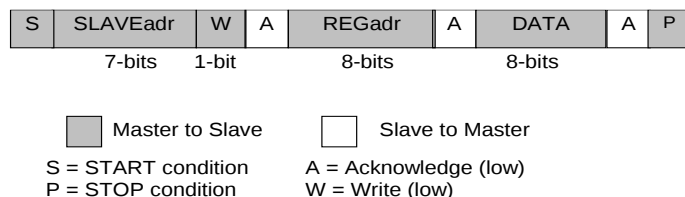
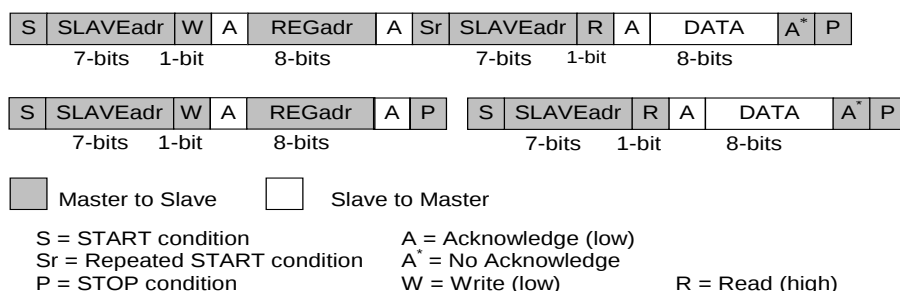

Figure 17. I²C Byte Write (SDA Line)
Figure 18. I²C Byte Read (SDA Line) Examples
The I²C bus is monitored for a valid slave address whenever the interface is enabled. It responds immediately when it receives its own slave address. The acknowledge is done by pulling the SDA line low during the following clock cycle (white blocks marked with A in Figure 17 and Figure 18).
The protocol for a register write from master to slave consists of a START condition, a slave address with read/write bit, and the eight-bit register address followed by eight bits of data, terminated by a STOP condition. DA9131-A responds to all bytes with acknowledge (A), see Figure 17.
When the host reads data from a register it first has to write to R16DS0569EJ0300 with the target register address and then read from R16DS0569EJ0300 with a repeated START, or alternatively a second START, condition. After receiving the data, the host sends no acknowledge (A*) and terminates the transmission with a STOP condition, see Figure 18.